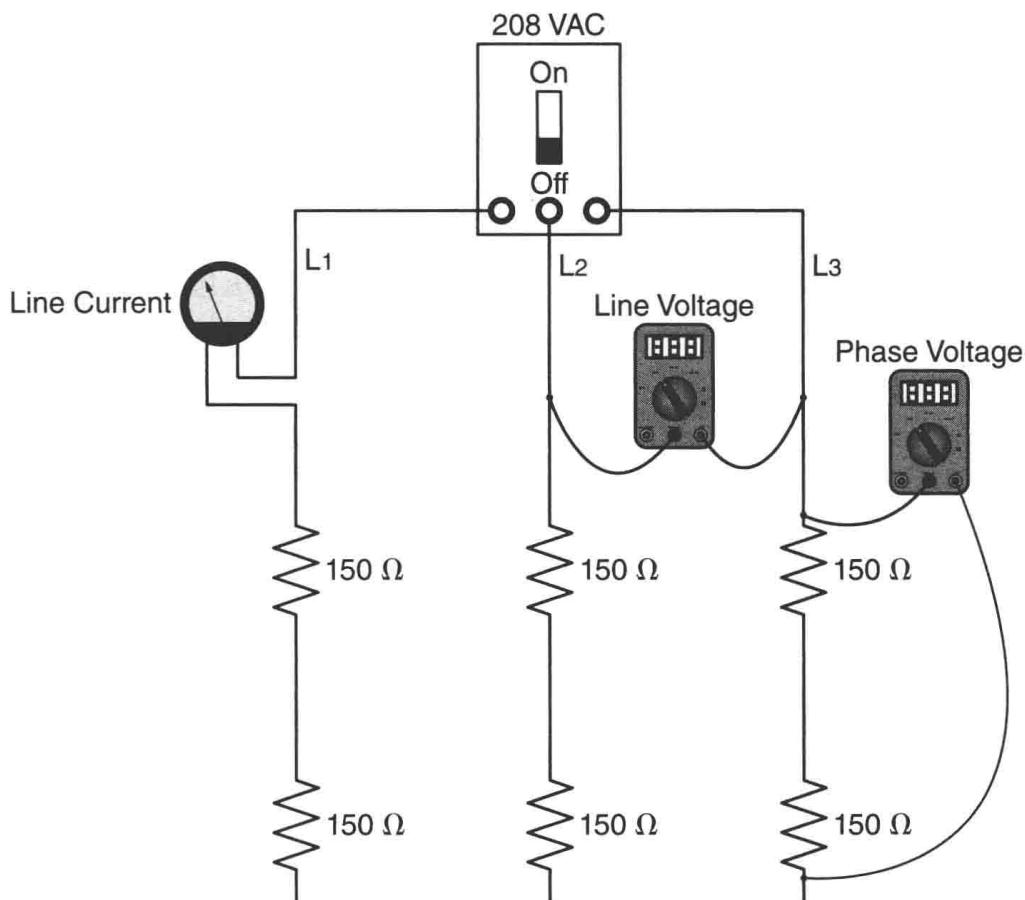

Figure 23-20 Measuring the line current in a wye connected load.
1. Connect the two 150-ohm resistors in series to form three separated load banks. Connect the load banks in wye by connecting one end of each bank together to form a center point, as shown in Figure 23-20. It is assumed that this load is to be connected to a 208 VAC three-phase line. Connect an AC ammeter in series with the line supplying power to the load.